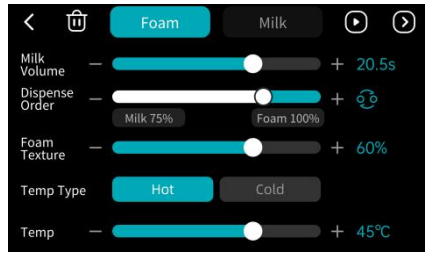

Figure 2
④ Hot Milk Foam Button: Press the Hot Milk Foam button to make hot milk foam. Press and hold the Hot Milk Foam button to enter the settings menu and configure hot milk foam parameters (preparation time, order of milk foam and milk, foam thickness, hot/cold type, foam temperature), as shown in Figure 2.